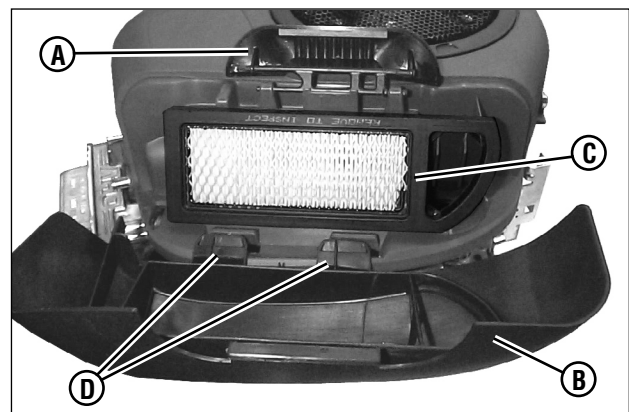

Figure 23: Opening the engine air cleaner cover
- Pull up and rotate the air cleaner latch (A, Figure 23) to remove the air cleaner cover (B).